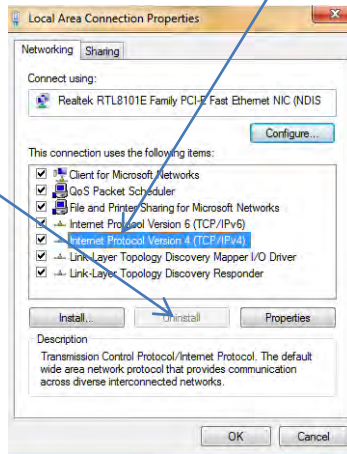

Fig 4
- e. When the properties window opens click on “**Internet Protocol Version 4 (TCP/IPv4)**” to bring it in focus then click the “**Properties**” button. (Fig 4)